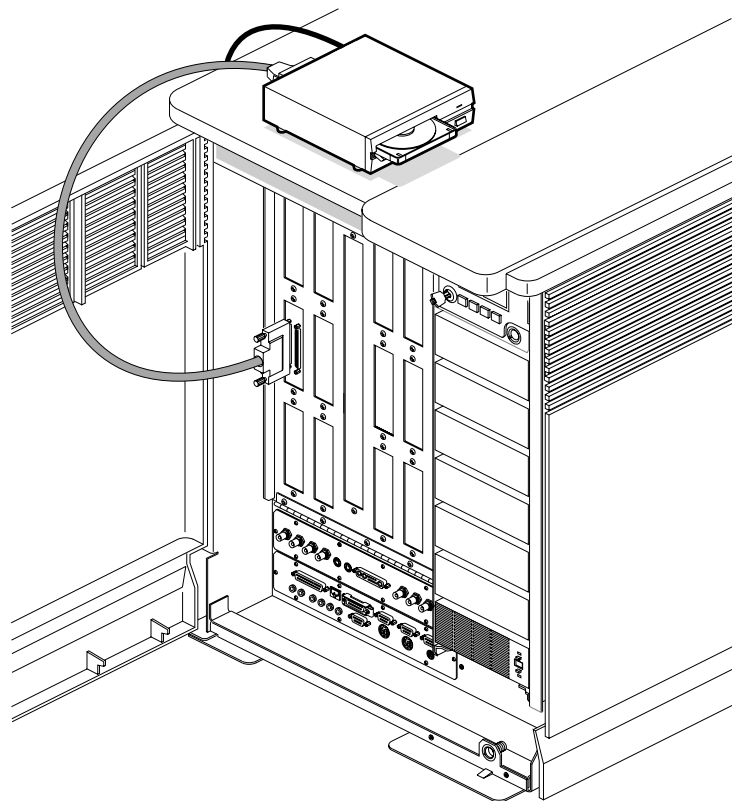

Figure A-4 Attaching the CD-ROM to the I/O Panel (Deskside)
13. Connect the 68-pin-to-50-pin Centronics SCSI adapter cable to the 68-pin SCSI connector you installed on the I/O panel. See Figure A-4.